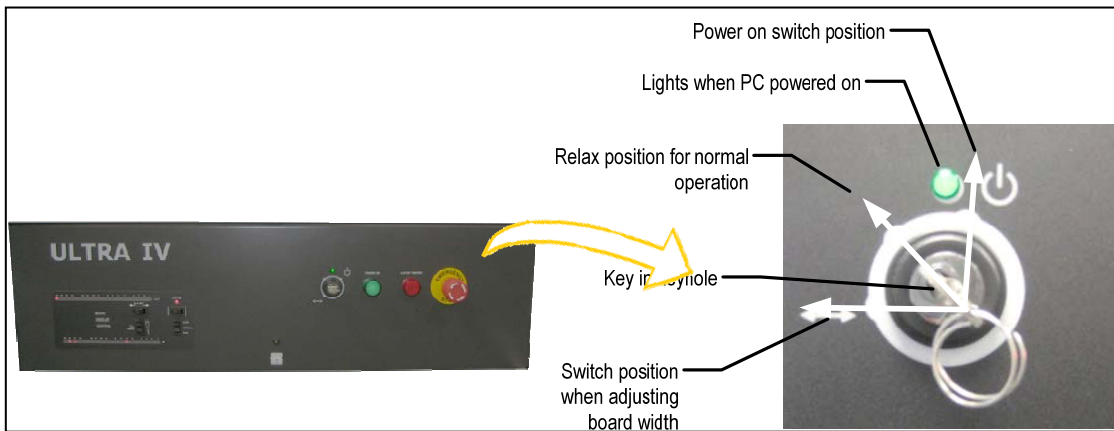

Figure 4.3: Power On key switch positions
2. Turn the key to its furthest right position (clockwise) and hold for 5 seconds (you will hear drivers turn on twice) and the green LED (PC on indicator) above the key is lit—relax the key--the system computer comes on-line and starts to boot. Refer to Figure 4.3 for switch positions.